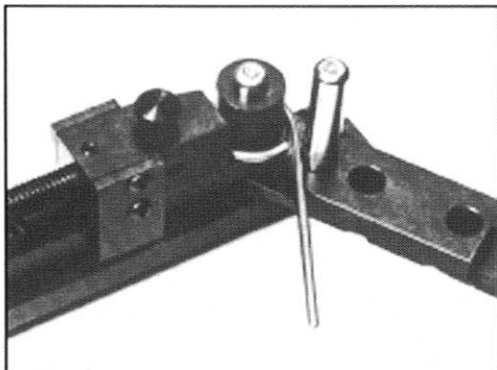

Figure 3
7. Re-clamp the material. Continue the above process until the material makes one full revolution. A slight over bending on the final step is required due to spring back, as shown in Figure 3.